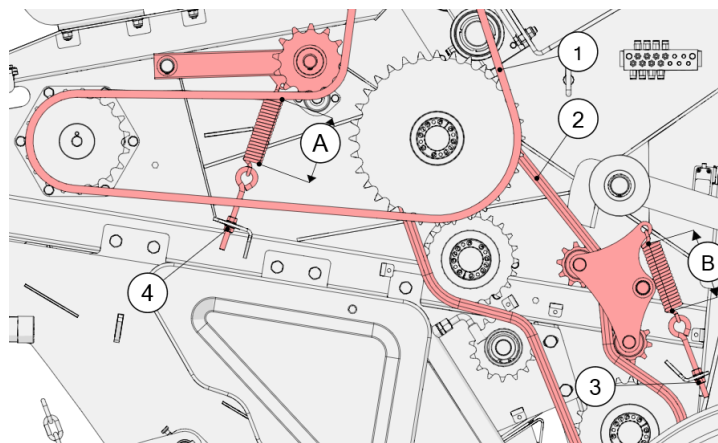

Figure 16. Chain tensioning
- To adjust the chains in the baling chamber (1) and (2), as shown in Figure 16, turn the tensioner nuts (3) and (4) and adjust the distances to the values below: